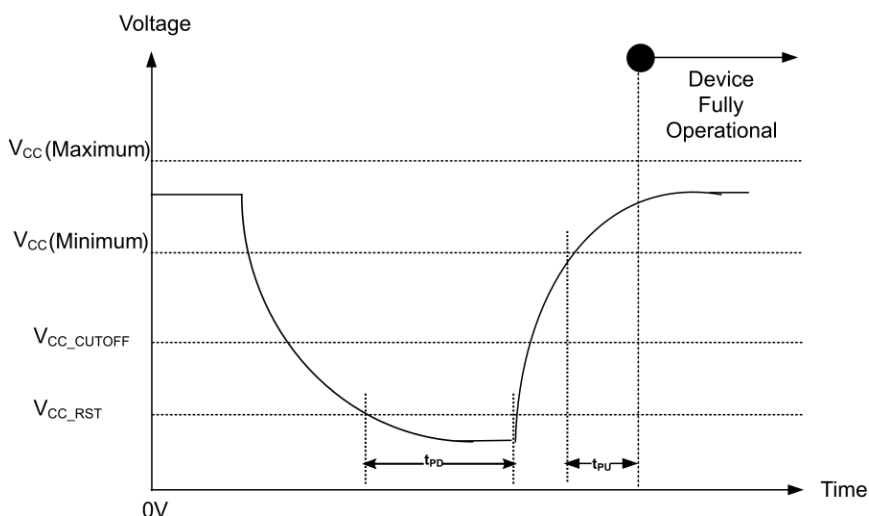

Figure 6: Power-Down Behavior
- During Power-up, recovering from power loss or brownout, a delay of t_{PU} is required before normal operation commences (Figure 6).